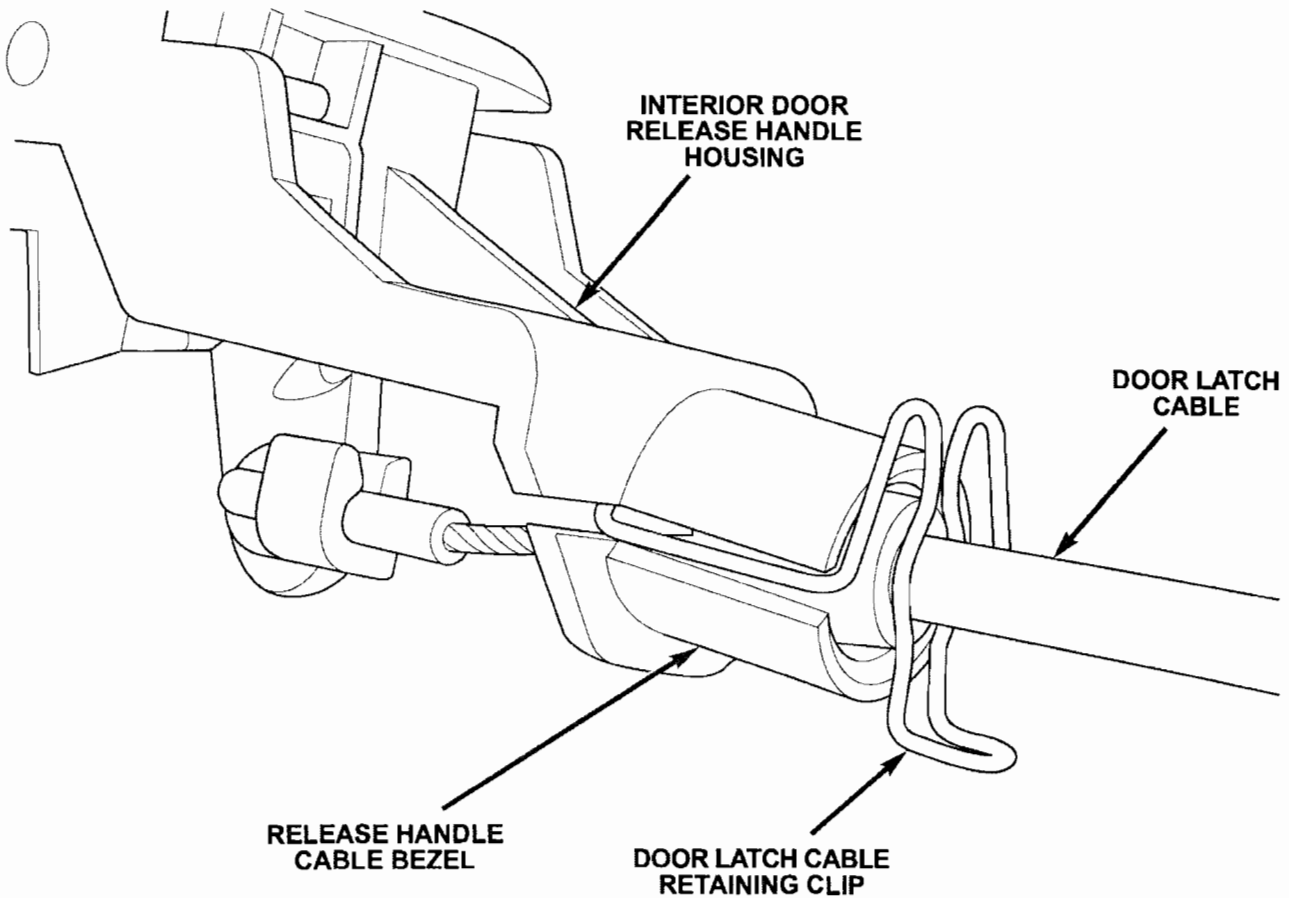

Figure 3
9. Install one interior door latch cable retaining clip as shown in Figure 3.